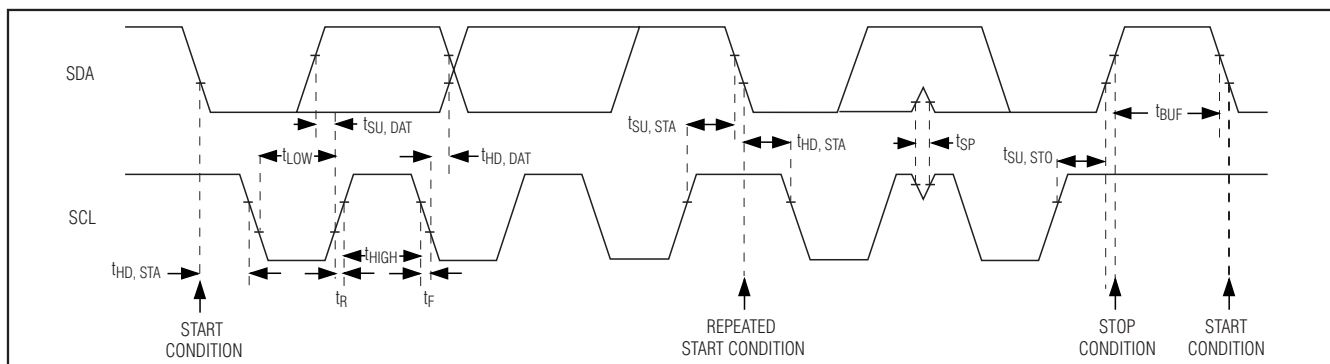

Figure 4. I2C Serial-Interface Timing Diagram
The MAX9597 features an I2C/SMBus™-compatible, 2-wire serial interface consisting of a serial-data line (SDA) and a serial-clock line (SCL). SDA and SCL facilitate communication between the MAX9597 and the master at clock rates up to 400kHz. Figure 4 shows the 2-wire interface timing diagram. The master generates SCL and initiates data transfer on the bus. A master device writes data to the MAX9597 by transmitting a START (S) condition, the proper slave address with the R/W bit set to 0, followed by the register address and then the data word. Each transmit sequence is framed by a START and a STOP (P) condition. Each word transmitted to the MAX9597 is 8 bits long and is followed by